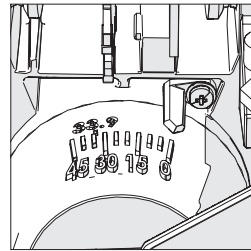

Fig. 8
- Ensure that the cutting head is upright, against its stop and the bevel pointer is indicating 0° on the scale (Fig. 8).